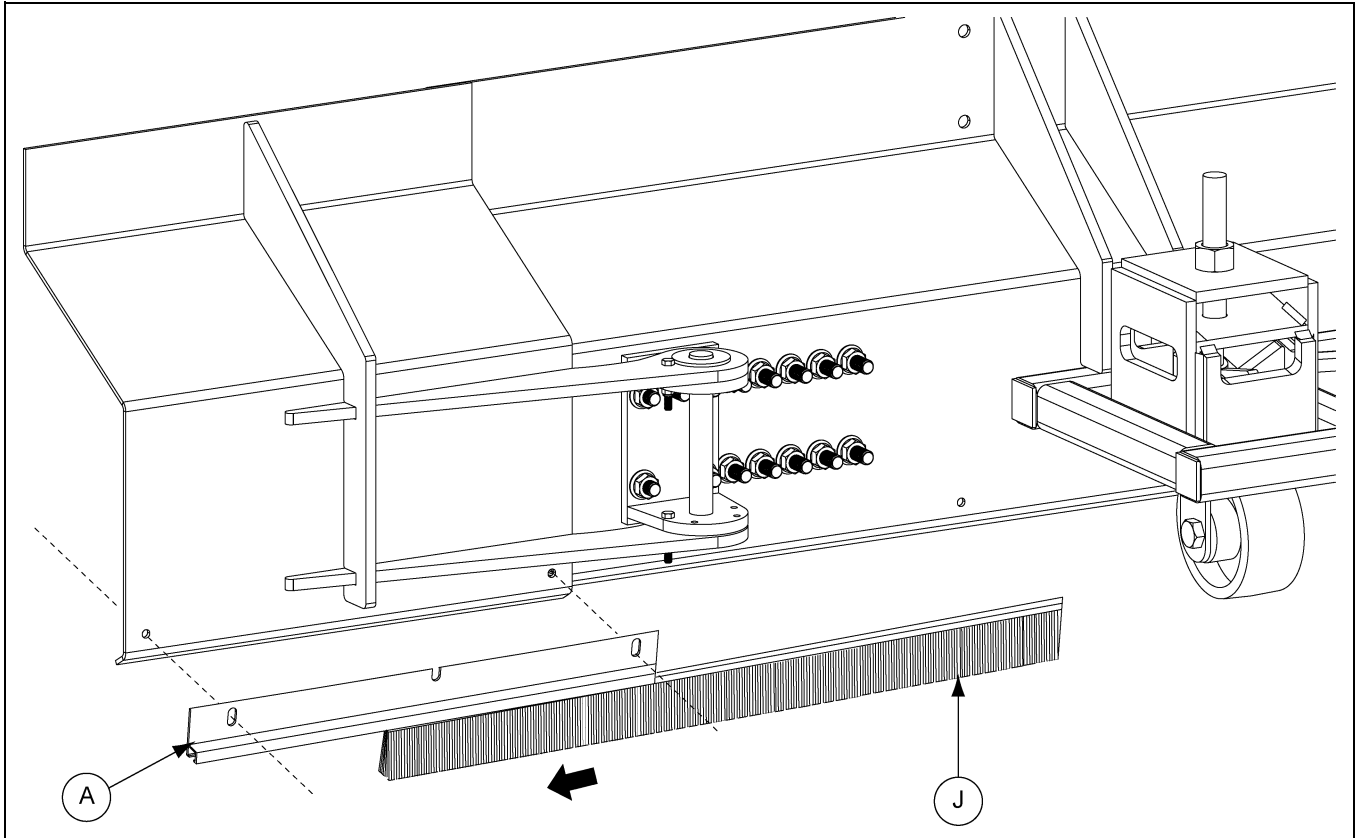

Figure 7M
7. Install brush (J) to brush holder (A). (See Figure 7M.)